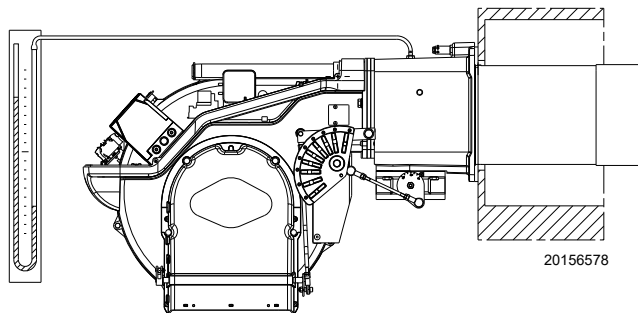

Fig. 30
- Fit a U-type pressure gauge (Fig. 30) to the gas pressure test point on the pipe coupling. The manometer readings are used to calculate MAX burner output using the Tab. J.
The arrival of gas to the sleeve is indicated by the U-type pressure gauge (Fig. 30).
A rough indication can be obtained from Tab. J, on page 21, just read the gas pressure on the "U" pressure gauge (see Fig. 30, on page 25) and follow the indications.